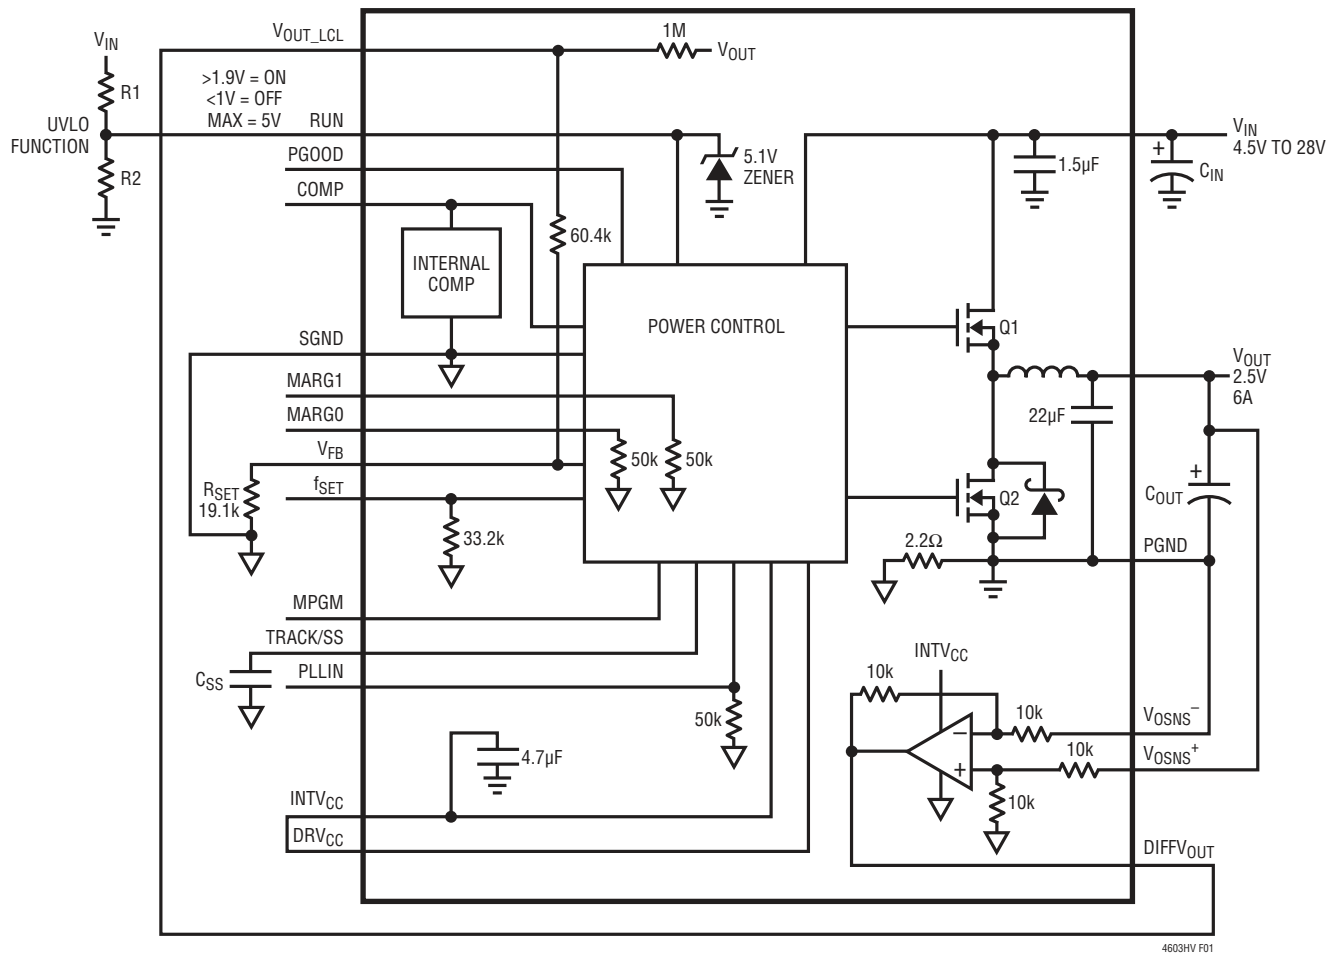

Figure 1. Simplified LTM4603HV Block Diagram
**RUN (Pin A10):** Run Control Pin. A voltage above 1.9V will turn on the module, and when below 1V, will turn off the module. A programmable UVLO function can be accomplished by connecting to a resistor divider from VIN to ground. See Figure 1. This pin has a 5.1V Zener to ground. Maximum pin voltage is 5V. Limit current into the RUN pin to less than 1mA.
$T_A = 25^\circ C$ . Use Figure 1 configuration.
See the Simplified Block Diagram (Figure 1).